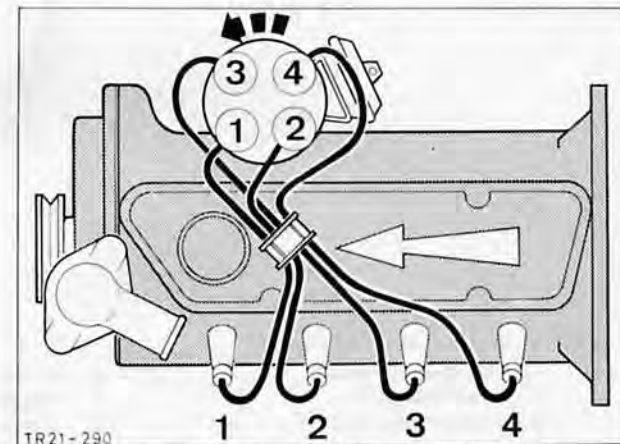

Fig. 71. Arrangement of HT leads (firing order)
72. Fit spark plugs and torque as specified in Technical Data. Refit distributor cap and connect HT leads to spark plugs, arranged as shown in Fig. 71. Connect vacuum line to carburettor.